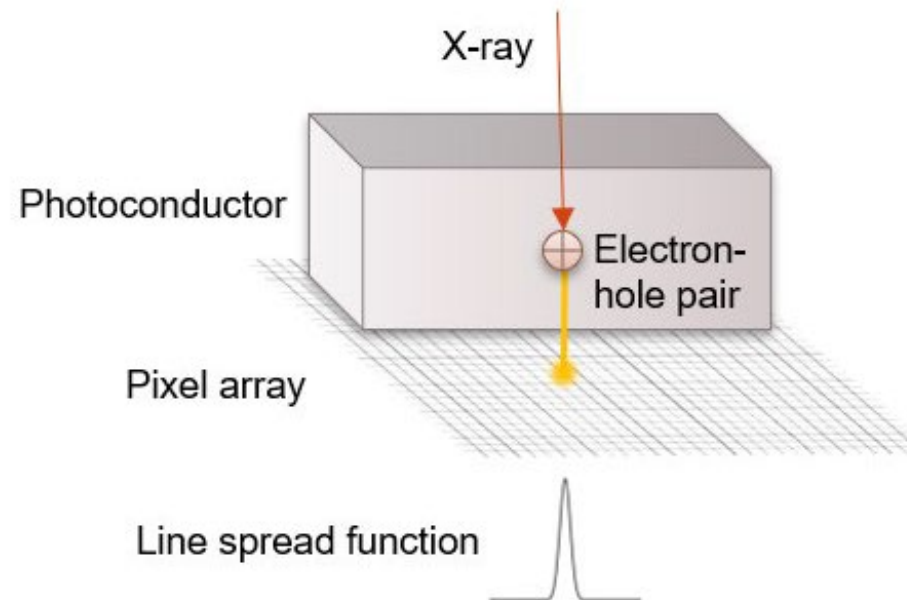

Fig. 22 – High spatial resolution of direct conversion detectors
- Direct conversion gives a high spatial resolution (Fig. 22).